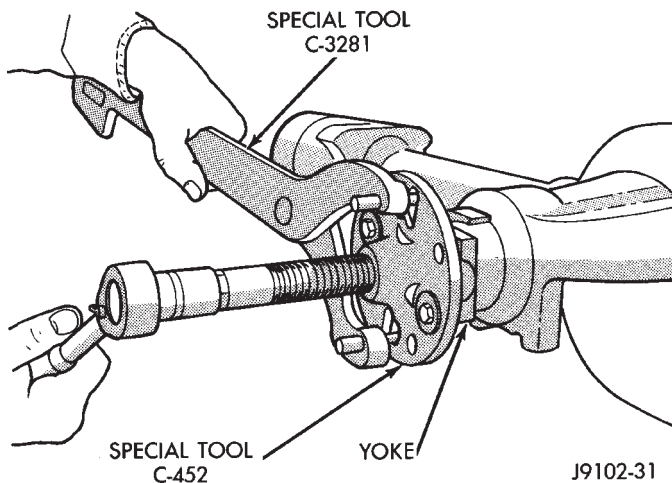

Fig. 12 Pinion Yoke Removal
(8) Using Holder 6958 to hold the pinion yoke, remove the pinion nut and washer.
(9) Use Remover C-452 and Wrench C-3281 to remove the pinion yoke (Fig. 12).
(10) Use a suitable pry tool or a slide hammer mounted screw to remove the pinion shaft seal.
(11) Remove the front pinion bearing using a pair of suitable pick tools to pull the bearing straight off the pinion gear shaft. It may be necessary to lightly tap the end of the pinion gear with a rawhide or rubber mallet if the bearing becomes bound on the pinion shaft.
(12) Remove the collapsible spacer.
- (1) Raise and support the vehicle.
- (2) Remove wheel and tire assemblies.
- (3) Remove rear brake drums. Refer to Group 5, Brakes, for proper procedures.
- (4) Mark the propeller shaft and pinion yoke for installation reference.
- (5) Remove the propeller shaft from the yoke.
- (6) Rotate the pinion gear three or four times.
- (7) Measure the amount of torque necessary to rotate the pinion gear with a (in. lbs.) dial-type torque wrench. Record the torque reading for installation reference.
- (8) Remove differential assembly from axle housing.
- (9) Using Holder 6958 to hold yoke, remove the pinion yoke nut and washer.
- (10) Using Remover C-452 and Wrench C-3281, remove the pinion yoke from pinion shaft (Fig. 12).